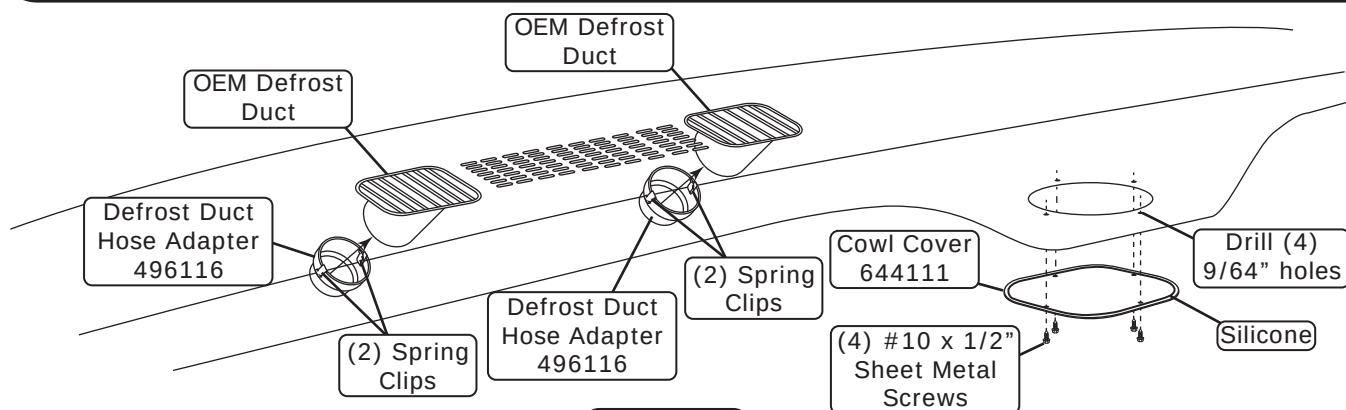

Figure 1
6. Secure the cowl cover to the fresh air hole using (4) #10 x 1/2 sheet metal screws as shown in Figure 1, below.